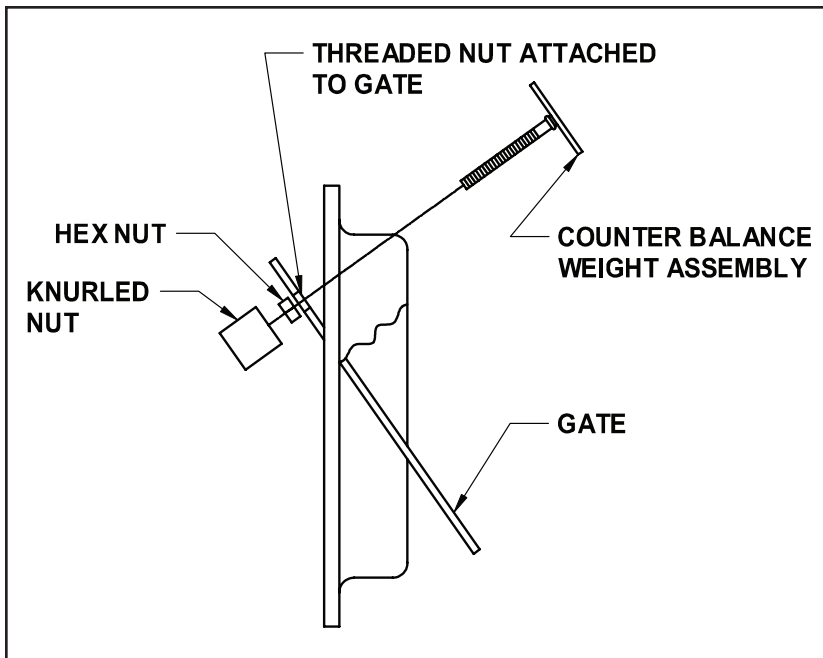

Figure 4
3. Assemble VRV balance weight onto the gate. Screw the weight all the way in. Then attach lock nut and knurl nut. (See Figure 4)